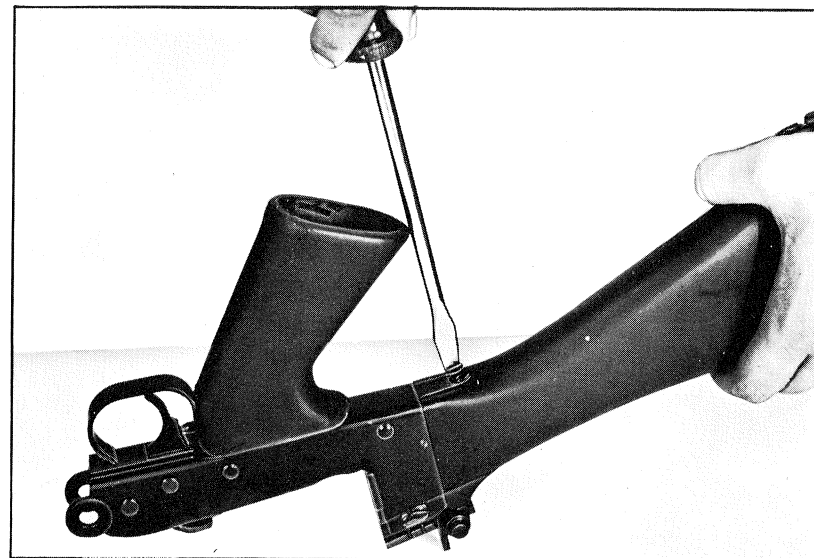
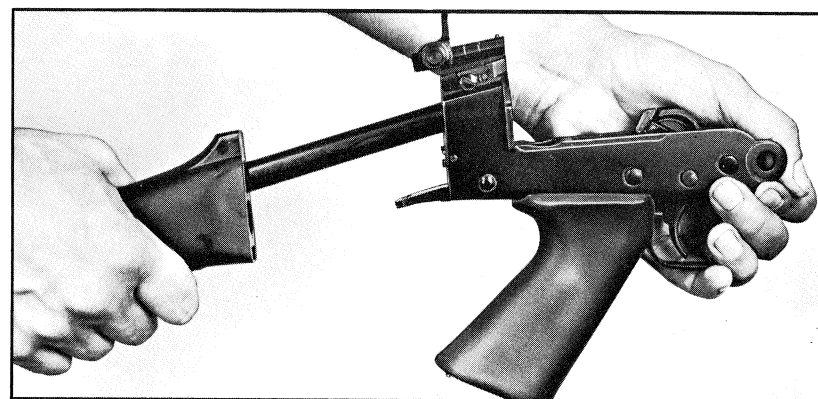

Fig. 115
Fig. 116
b) **Butt.** — Unscrew the frame tang screw (fig. 115).
Separate the butt and the frame (fig. 116).
Replace the butt on the frame (fig. 116) and screw in the frame tang screw (fig. 115).